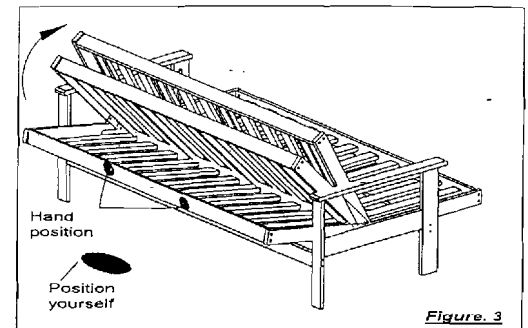

Figure 3
3. Standing in the middle of the frame, lift up the seat deck using both hands 3 feet apart to ensure even force is applied in order to lock the seat deck in the lounge position. (figure 3)